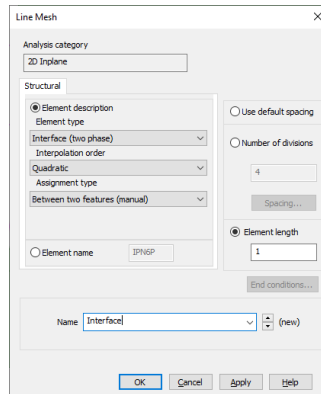

Figure 25: Interface mesh
- Select **Attributes > Mesh > Line...** to define the interface mesh. Define an **Interface (two phase)** element type of **Quadratic** order with an element length of **1** (figure 25)